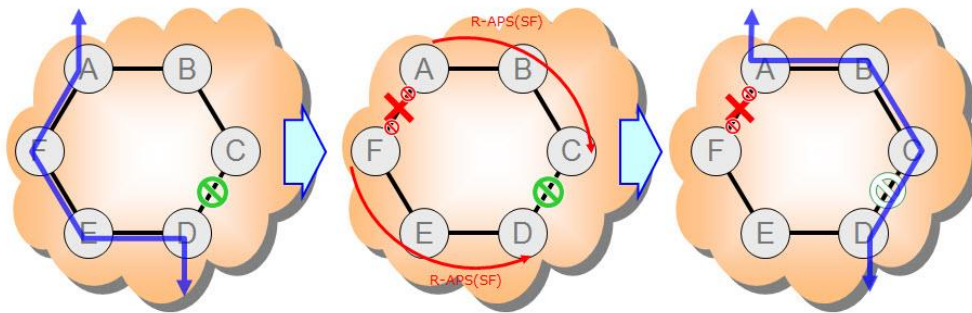

Figure 14 – Basic ERP Protection Mechanism
Figure 14 illustrates the basic ERP protection mechanism. In normal ring operation, the RPL is blocked, between nodes C and D. In a failure condition, the failed link, between A & F, is blocked and R-APS(SF) messages are sent from the nodes adjacent to the failed links in order to unblock the RPL. An FDB flush is performed on all ring nodes as necessary.